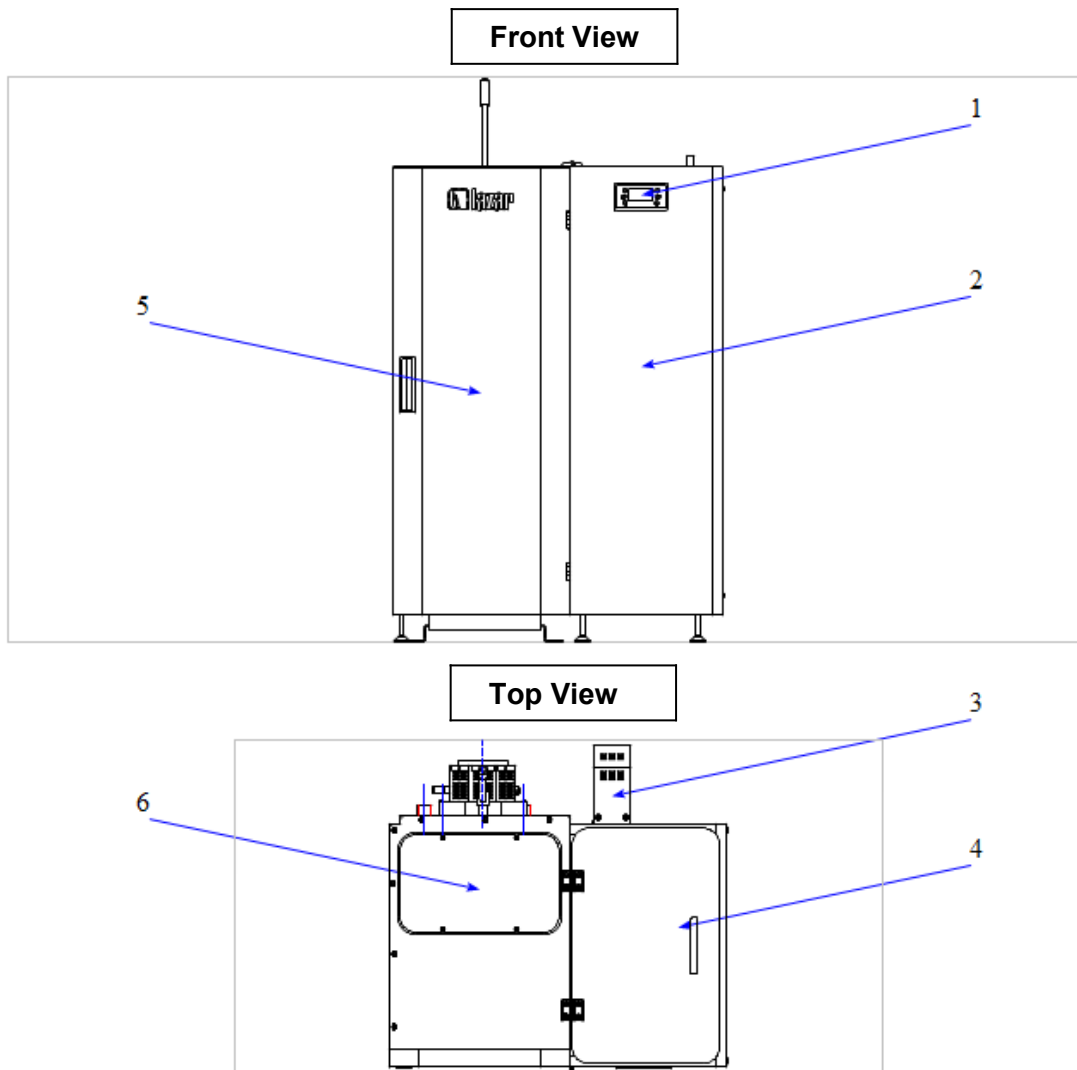

Figure No. 14 Smart Fire SF 11 Compact and SF15 Compact boiler diagram:
- Smart Fire SF11 Compact and SF15 Compact – remove the masking grille (Figure No. 14, item 6).